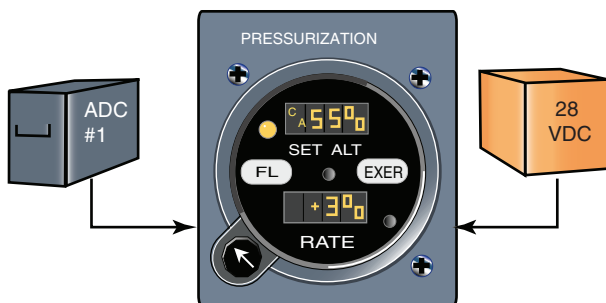

Figure 12-8 Isobaric Mode — CA
Prior to or during descent to landing, the crew should press the “FL” button on the controller face, which will replace Flight Level (FL) with Cabin Altitude (CA) in the SET ALT window. The current cabin altitude will be displayed (Figure 12-8). Using the set knob,